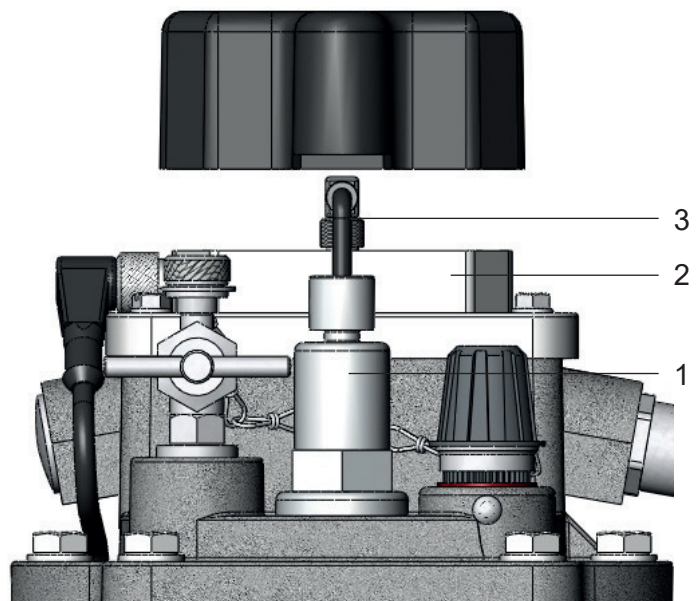

Figure 5 - Cover with dust hood removed
- Disconnect the sensor (Fig. 5/ N° 1) from the amplifier unit (Fig. 5/ N° 2) by pulling out the M8 line protection plug (LS plug) (Fig. 5/ N° 3).
To release the LS plug hold them (Fig. 5/ N° 3) by the serrated handpiece and pull out without twisting. The plug may be damaged when twisting it.